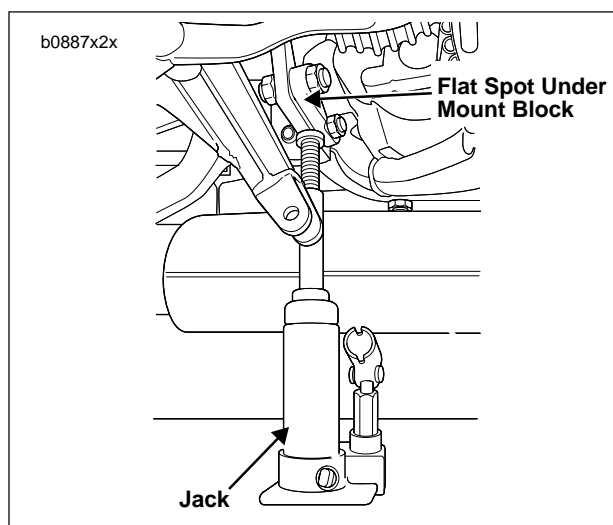

Figure 2-90. Supporting Motorcycle with Jack
- a. See Figure 2-90. Support motorcycle with jack.